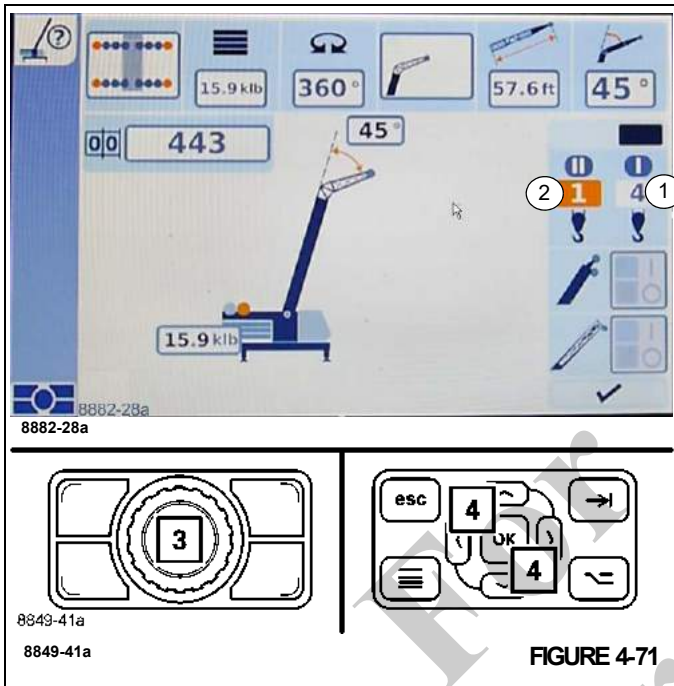

FIGURE 4-71
- Use the buttons (3), (Figure 4-71) or (4), (Figure 4-71) to select the rigged reeving.